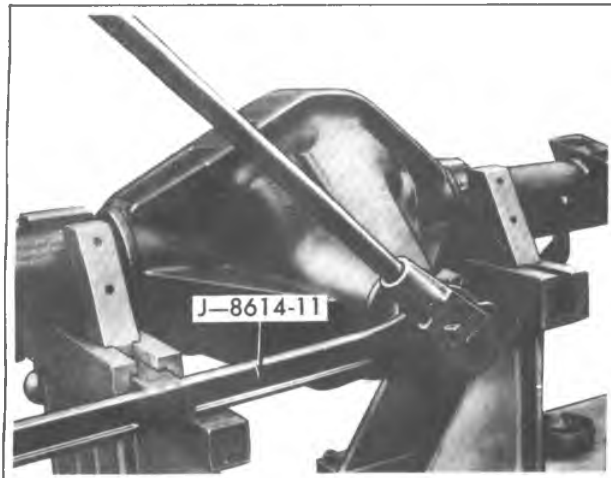

Fig. 5F--Removing Pinion Nut
3. Install Holder J-8614-11 on flange by using two bolts with flat washers, as shown in figure 5F. Position J-8614-11 on flange so that the four notches are toward the flange.